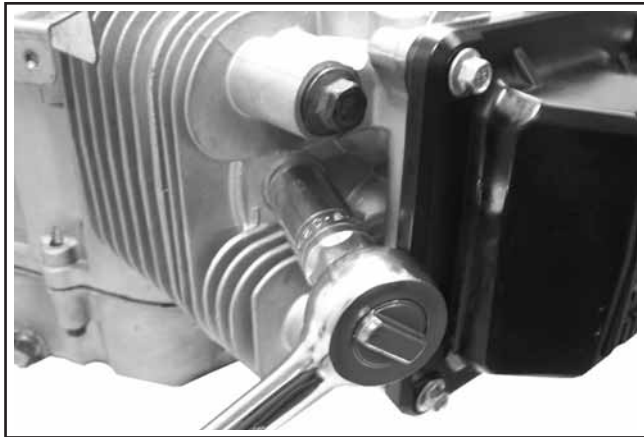

Figure 10-54. Installing Spark Plugs.
3. Install new plugs and torque to **24.4/29.8 N·m (18/22 ft. lb.)**. See Figure 10-54.